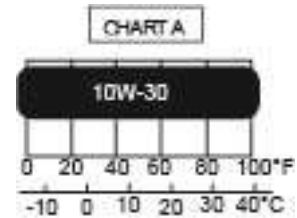

Figure 3
- Chart A shows the recommended temperature range – See Engine Owner’s Manual. After every 10 hours of accumulated run time, you need to check the oil level in the crankcase and add as needed per the instructions in Figure 3 and 4 (below).
- To check or add oil, place machine on level surface. Tip the machine forward as shown in Figure 3.
4. Only add oil when the machine is laying forward on the bumper guard as shown in Fig. 3.